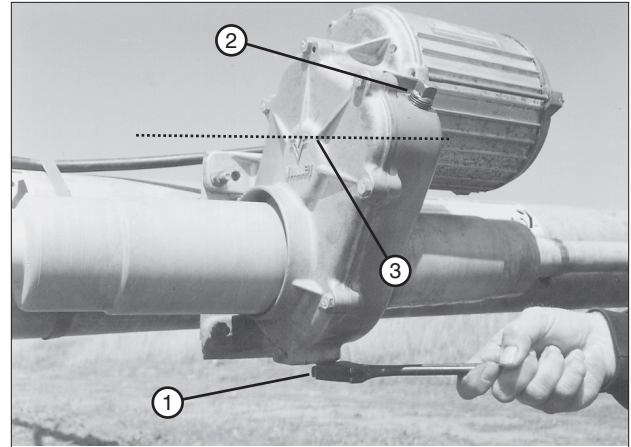

Figure 69-1 1. Drain Plug 2. Fill Plug 3. Oil Level
1. Remove the drain plug and the fill plug. Drain the oil and install the drain plug. See figure 69-1.